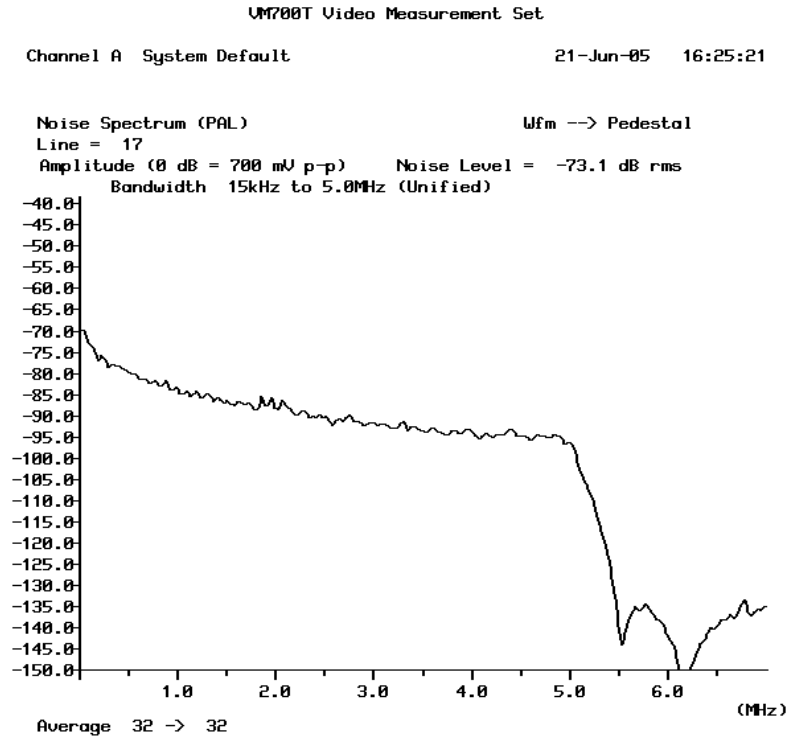

Figure 2-1. Noise spectrum (Input=0% flat field, BW=15kHz to 5MHz, uni weighted)
- Figure 2-1. Noise spectrum (Input=0%flat field, BW=15kHz to 5MHz, uni weighted)